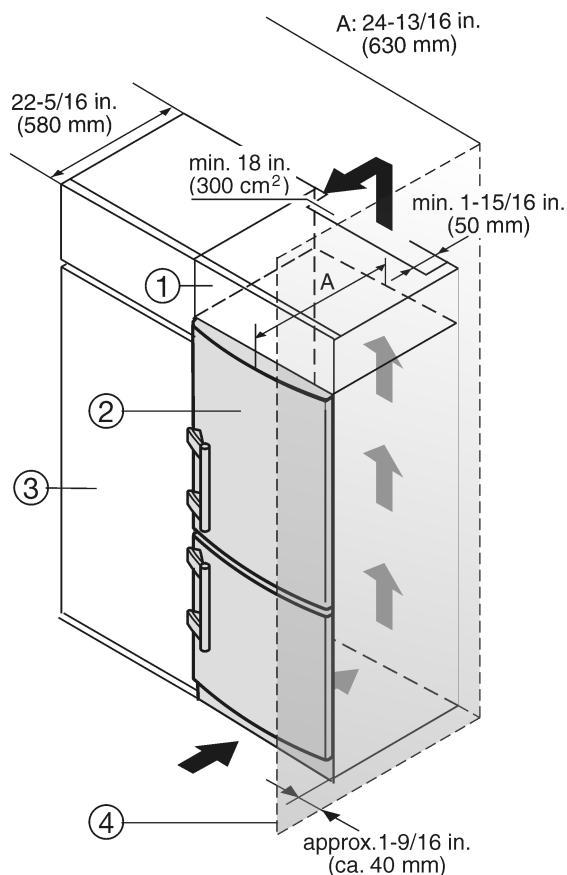

Fig. 9
- (1) Top cupboard
- (2) Appliance
- (3) Kitchen cabinet
- (4) Wall
The appliance can be built into the range of kitchen units. To bring the appliance *Fig. 9 (2)* up to the height of the fitted kitchen units, a suitable top cupboard *Fig. 9 (1)* can be added above the appliance.
When installing with kitchen cabinets (max. depth. 22-27/32 " (580 mm)) the appliance can be installed right next to the kitchen cabinet *Fig. 9 (3)*. The appliance door projects 1-11/32 " (34 mm) at the side and in the center of the appliance 1-31/32 " (50 mm) from the front of the kitchen cabinet. This allows it to open and close properly.
If the appliance is installed with the hinges next to a wall *Fig. 9 (4)*, the gap between the appliance and the wall must be at least 1-9/16 " (40 mm). This is how far the handle protrudes when the door is open.